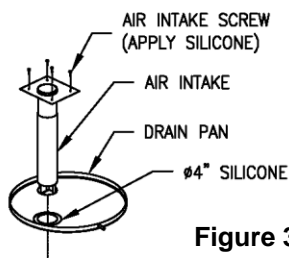

Figure 3
5. Apply 4" diameter circle of silicone around bottom of air intake plate and screws used to secure air intake to floor for proper watertight sealing (see Figure 3).